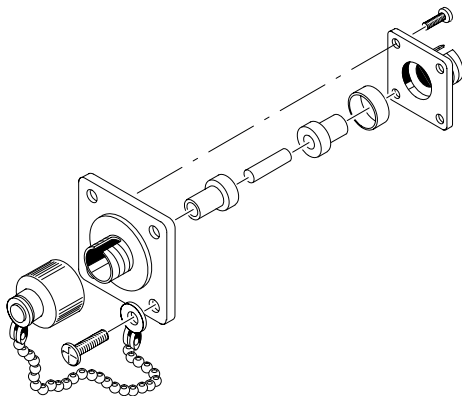

**Figure H-1: Removing the Optical Bulkhead Connector**
2. Remove the four screws that attach the bulkhead connector to the front panel (see Figure H-1).